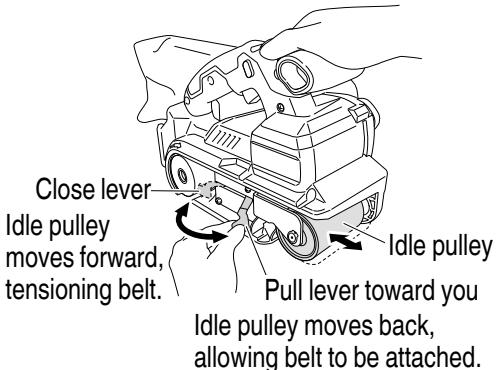

Fig. 8
(1) Pull lever with finger, idle pulley will then move backward. (Fig. 8)